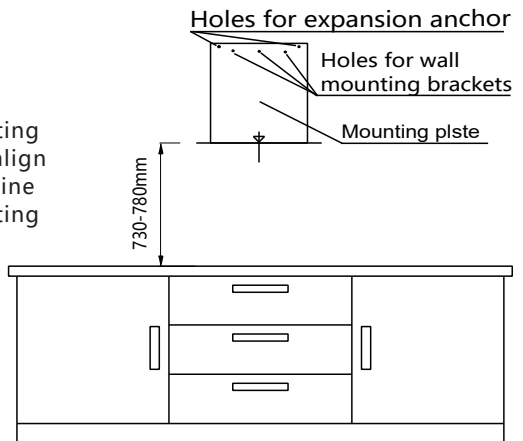

Figure 4.2 PRH900/PRH900A(with rear glass)/PHR900/PHR910A (with rear glass) drilling diagram
- Align the bottom edge of the mounting plate with the horizontal line; then align the triangular point with the centerline of the stove. Should keep the mounting bracket still at all time. If using expansion anchors, mark those 2 holes on the wall. If using a wall mounting bracket, then mark the 3 drilling holes on the wall (see figure 4.2).